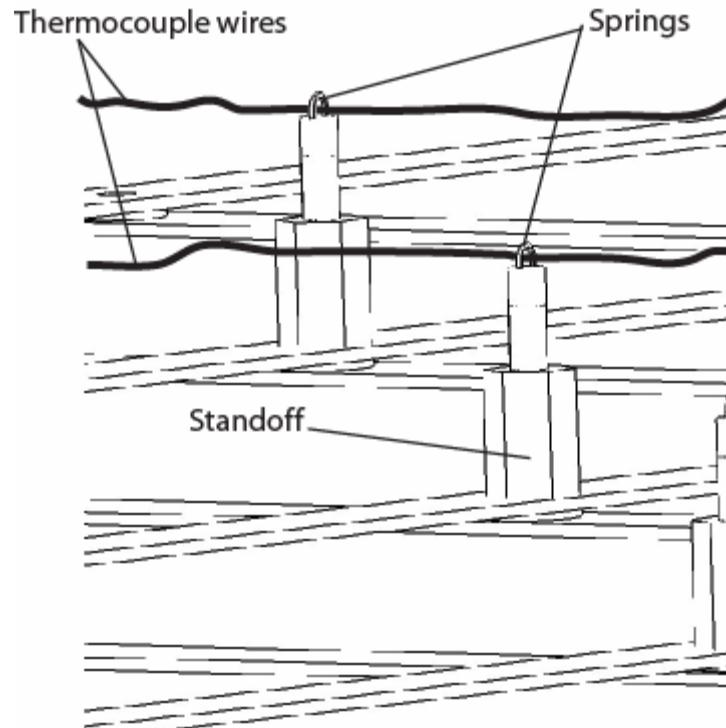

Figure 9. Thermocouple through a spring top
2. Thread the thermocouple wire through a ring on the top of an extension spring at a stand-off, as shown in Figure 9. This will help guide thermocouple motion during the stowage or deployment.